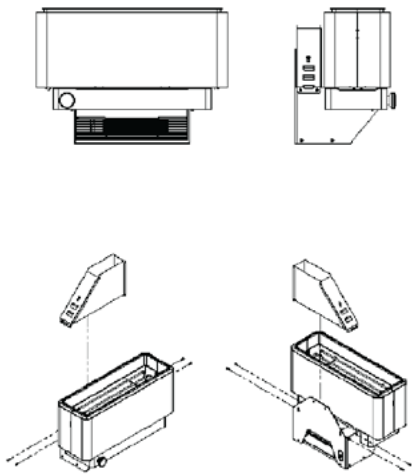

Figure 3.2: Removing the flue socket
See figures 3.2 to 3.8.
3.2.1. Loosen the four fixing screws holding the flue socket and remove the flue socket (figure 3.2).